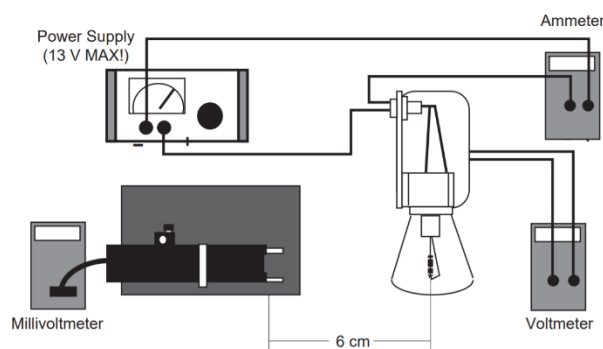

Fig. 8: Experimental setup for verifying the Stefan-Boltzmann law
- (ii) Set up the equipment as shown in Fig. 8. The voltmeter should be connected directly to the binding posts of the lamp. The sensor should be at the same height as the filament, with the front face of the Sensor approximately 6 cm away from the filament. **The entrance angle of the thermopile should include no close objects other than the lamp.**